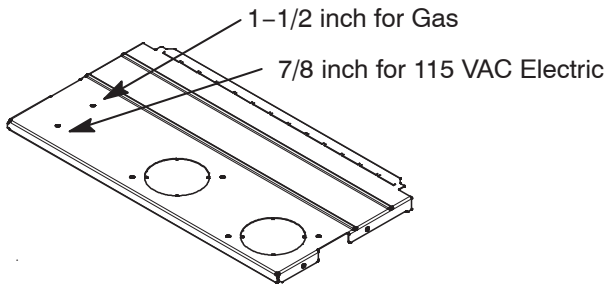

Fig. 32 – Alternate Gas and Electric Entry
NOTE: Check to ensure that external electrical box does not interfere with duct work, gas piping or the indoor coil drain. See Fig. 32 for alternate electric entry through top panel.
5. Fasten the external electrical box to the furnace casing using two (2) sheet metal screws.
11. Connect field power and neutral leads to furnace power leads inside the external electrical box as shown in Fig. 32.